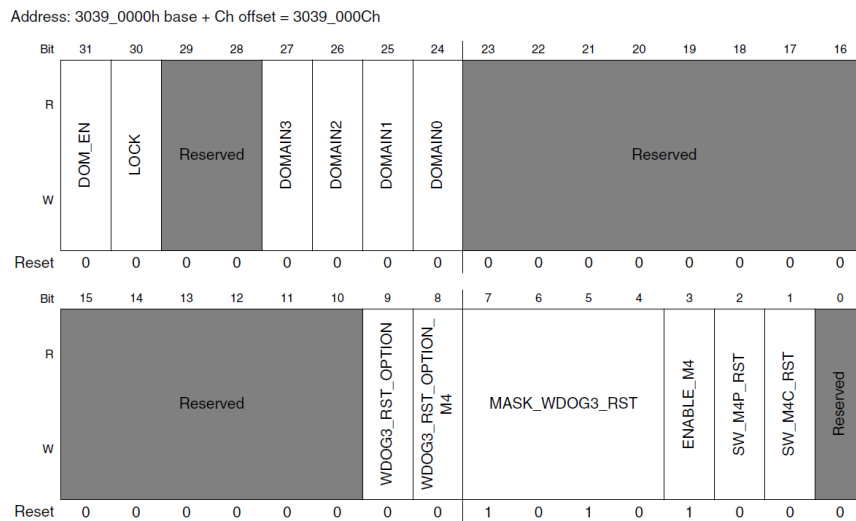

Figure 1. Cortex-M4 reset control register (SRC_M4RCR)
- Repeat steps 1-3 for reloading a new image. More details about the **SRC_M4RCR** register are shown in Figure 1.